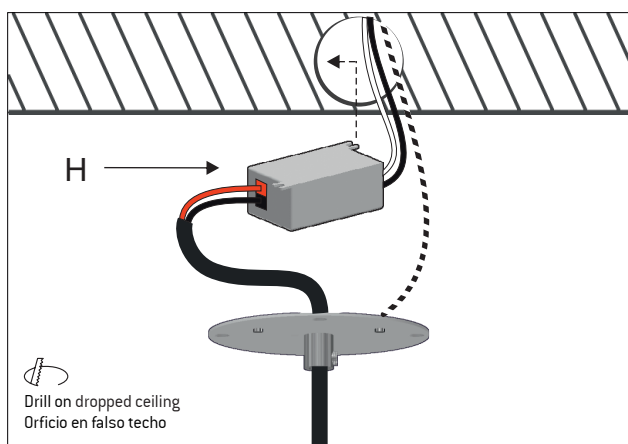

Figure 10
The ceiling hole should measure 55mm of diameter. Make the electrical connections and place the remote driver (H) inside the ceiling. Figure 10